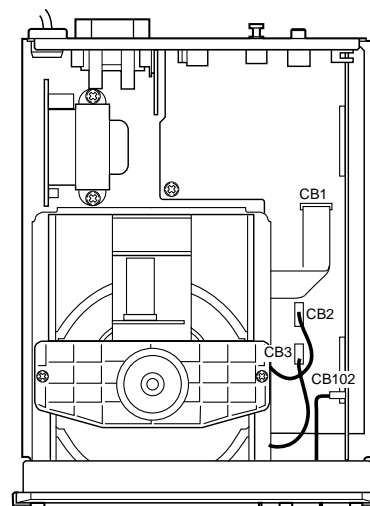

Fig. 2
- a. Remove a connector (CB102) in Fig. 2.
- a. Remove 3 connectors (CB1, CB2, CB3) in Fig. 2.